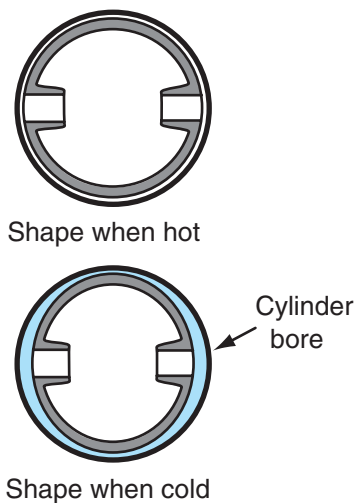

FIGURE 13.12 Cam ground piston skirt.
- Second, the piston skirt is **cam ground** (Figure 13.12). This allows it to fit the cylinder with only 0.0005" to 0.0025" of clearance. The smaller the clearance, the less chance of piston "slap" and the oval cylinder wear that it causes. Expansion takes place perpendicular (at a 90° angle) to the piston skirt.